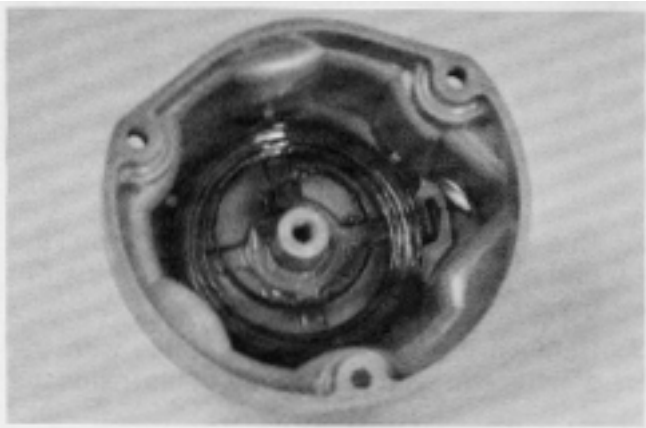

Figure 63
1. If the spring was removed during servicing, lubricate it with a number 2 general purpose lithium base grease, and reinstall as shown in Fig. 63.